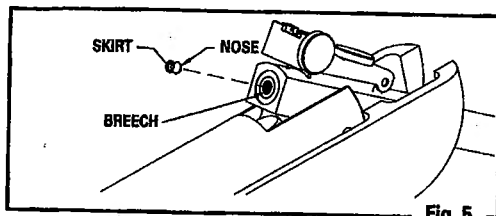

Fig. 5
- With the barrel in the open position, after it has been cocked, place one pellet, nose forward, into the breech (Fig. 5).